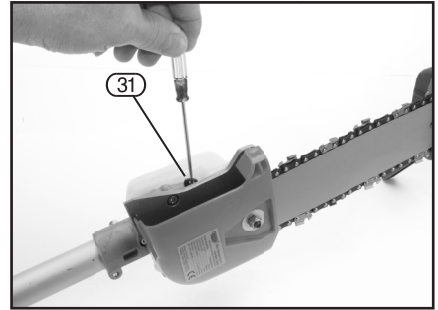

FIG. 19
11.1 ADJUSTING THE OIL FLOW - FIG.19